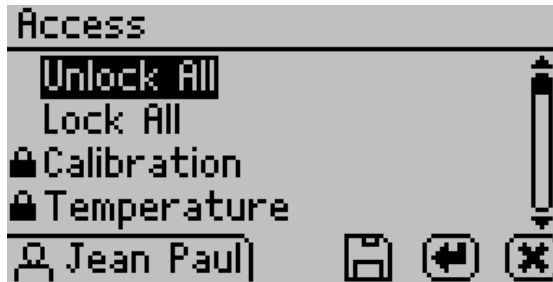

Figure 36 Admin Settings option
- **Admin Settings.** Select to configure the administrator password, configure users, and specify salt standards for multipoint calibrations. (Figure 36).